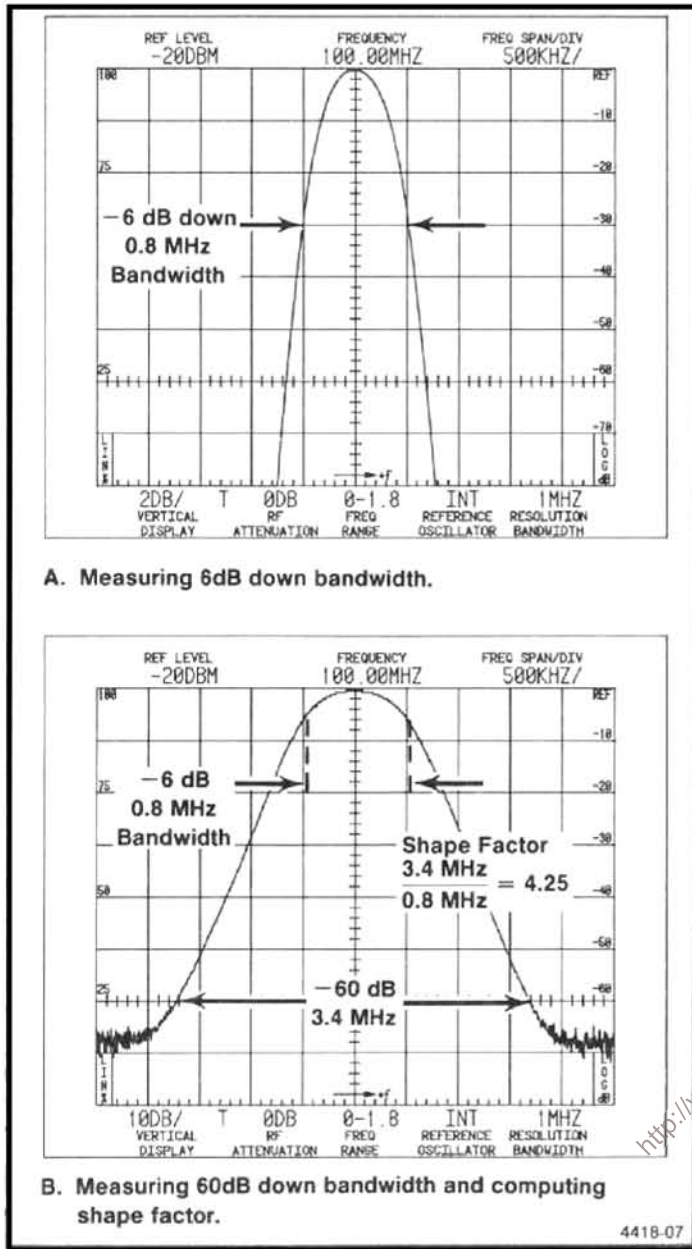

Figure 4-8. Typical display to illustrate how response bandwidth and shape factor are determined.
d. Calculate the shape factor as the ratio of -60 dB/-6 dB bandwidths (see Figure 4-8). Shape factor should equal 7.5:1 or less.